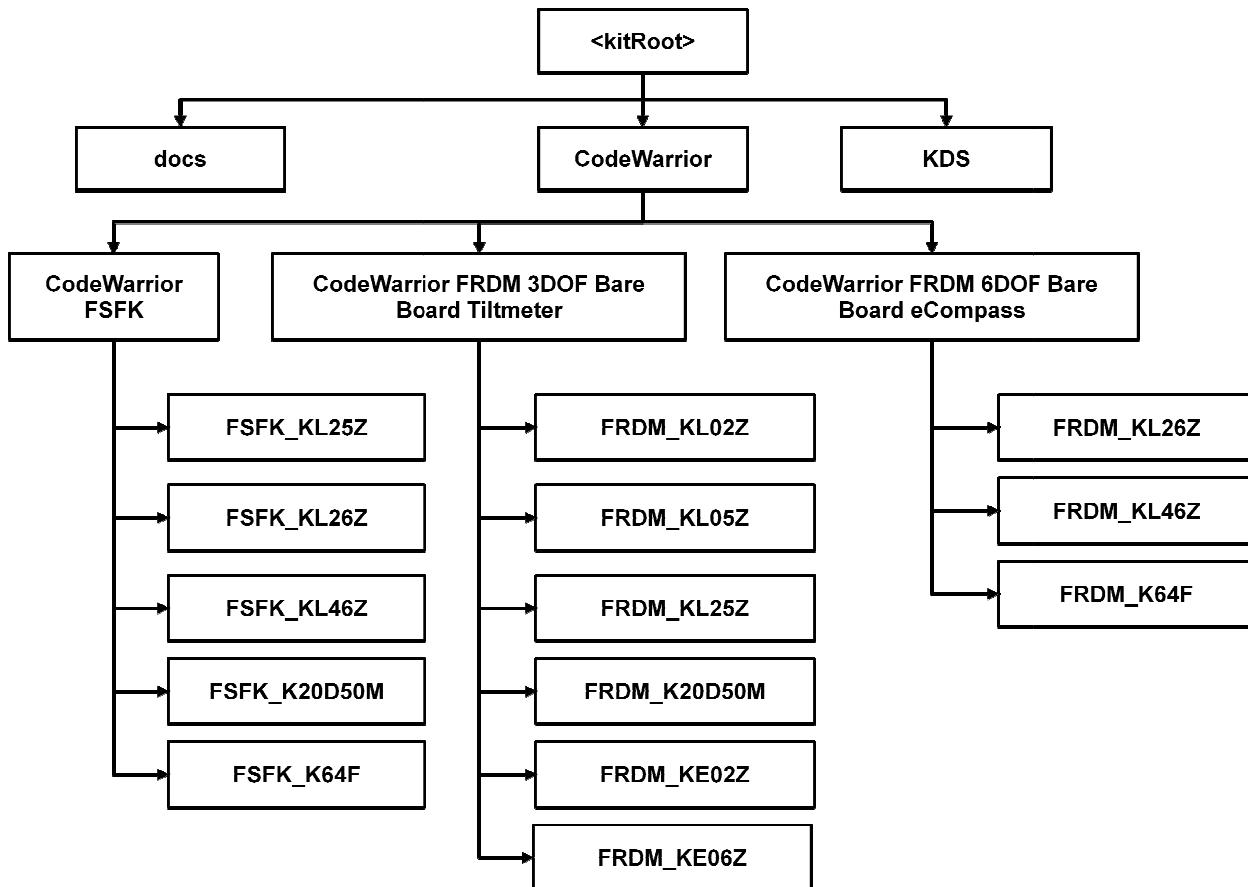

Figure 9. Kit structure with CodeWarrior subtree expanded
1. Download the zipfile containing the kit from www.freescale.com/sensorfusion. Expand the zip file using any standard expansion tool into the root directory of your choice. You will then see the directory structure shown in Figures 9 and 10. This version of the development kit has some *bonus material* in the form of bare board projects for tiltmeter and eCompass. By “bare board”, we mean “without RTOS”.